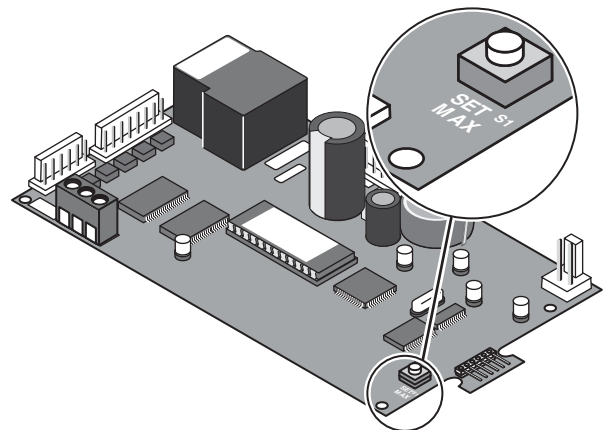

Figure 33.
3. Push the **Max. Temp. Set Point** button on the back of the control board (see Figure 33).